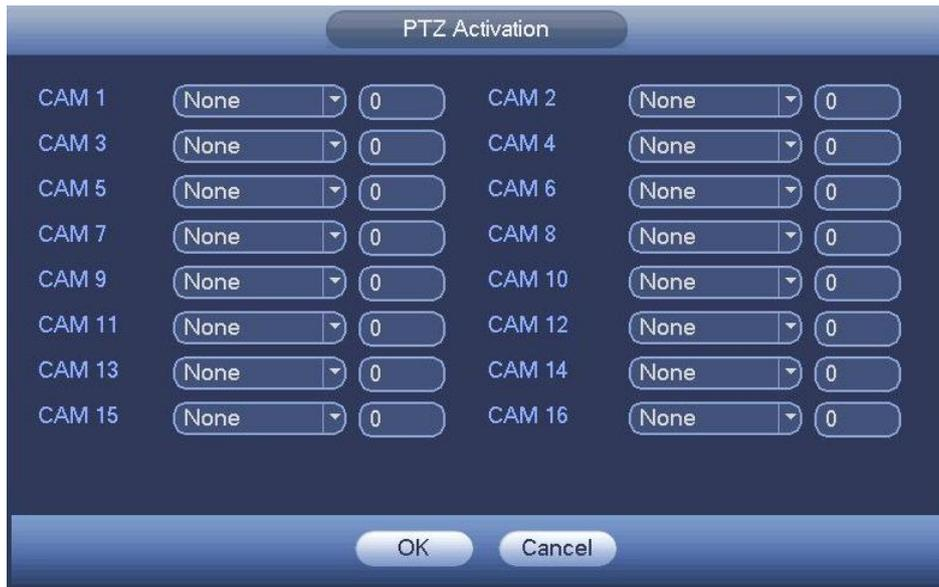

Figure 4-148
- PTZ activation: Here you can set PTZ movement when an alarm occurs. Such as go to preset, tour & pattern when there is an alarm. Click “set” button, you can see an interface is shown as in Figure 4-148.